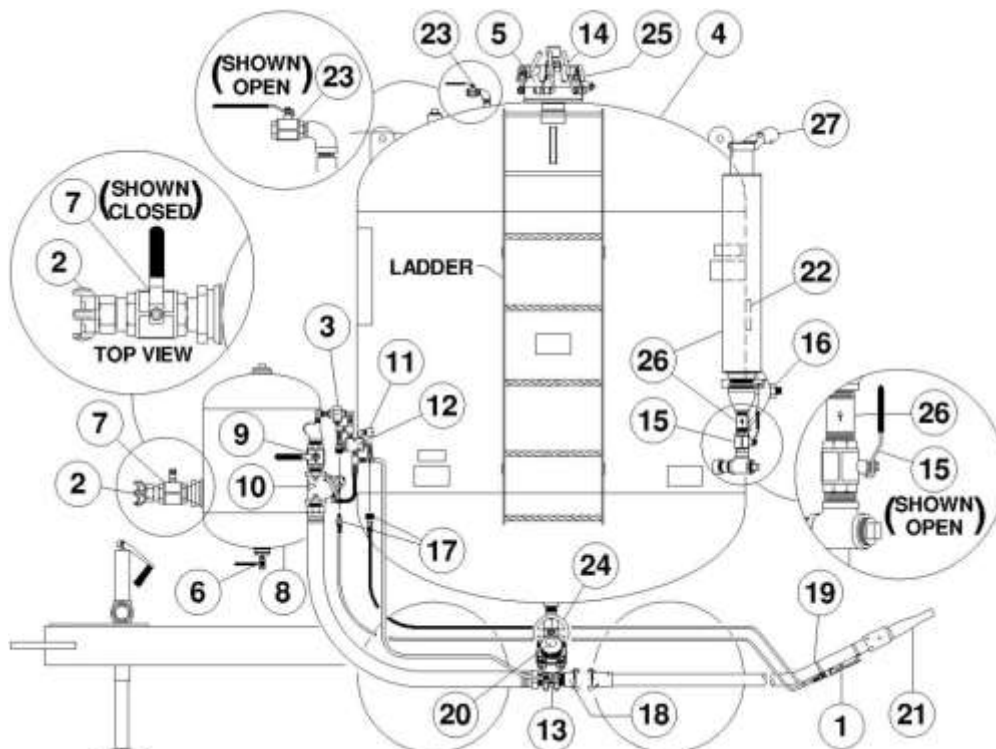

Figure 6.2 – Typical Bulk Abrasive Blaster
6.1. Bulk Abrasive Blaster Setup Procedure (see Figure 6.2 or Figure 8.7).
- 6.1.5. Do Not operate this equipment without the pressure indication ball valve (#23) in place. This is an added feature that allows the operator to verify that the bulk abrasive blaster is completely depressurized before attempting to open the closure. See Figure 6.2.
- 6.2.1. Close the air inlet ball valve (#7). The ball valve is closed when the handle is fully turned to the position shown in Figure 6.2 (handle perpendicular to body). The handle tab will bottom against the ball valve body in the closed position.
6.3. Closure Assembly Opening Procedure (See Figure 6.2, 6.3.1 and 6.3.2).
6.3.1. Taking the proper fall protection measures, access the closure (#5) using the bulk abrasive blaster ladder. See Figure 6.2.
6.3.2. The bulk abrasive blaster **MUST** be completely depressurized before attempting to open the closure assembly (See Section 6.2). Verify that the abrasive blaster is completely depressurized by opening the pressure indication ball valve (#23) next to the closure (see Figure 6.2). If any air leakage occurs, **DO NOT CONTINUE**. Follow the depressurizing procedure in Section 6.2. **DO NOT** depressurize the bulk abrasive blaster through the pressure indication ball valve (#23).